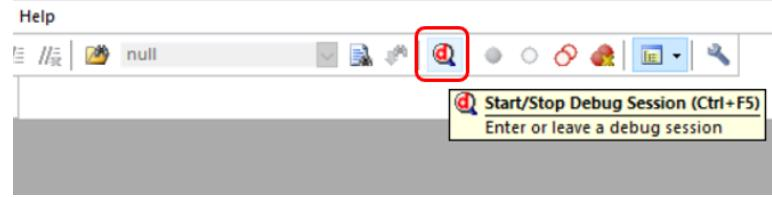

Figure 8.19: Keil IDE: Debug Button
2. Press the “debug” button to bring up the debugger interface (See Figure 8.19).
- To exit the debugging session, press the “debug” button again (see Figure 8.19).